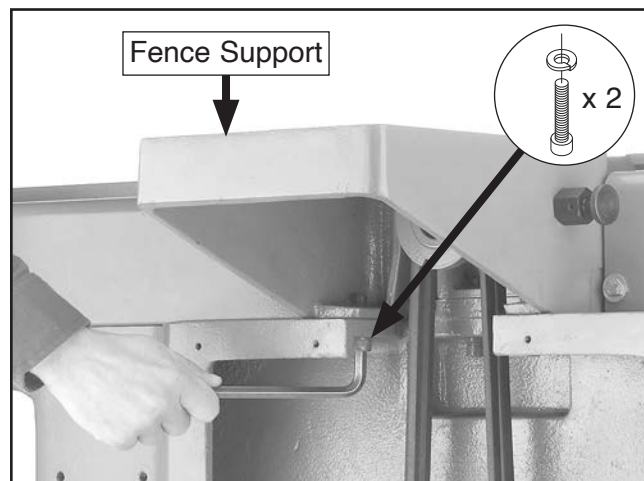

Figure 2. Installing fence support.
2. With assistance, secure fence support to jointer with (2) M12-1.75 x 30 cap screws and (2) 12mm lock washers (see Figure 2).